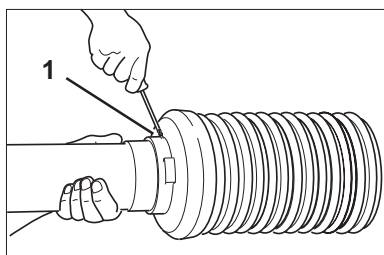

Fig. 5.3
- Remove fixing bolt (Fig. 5.3/1).